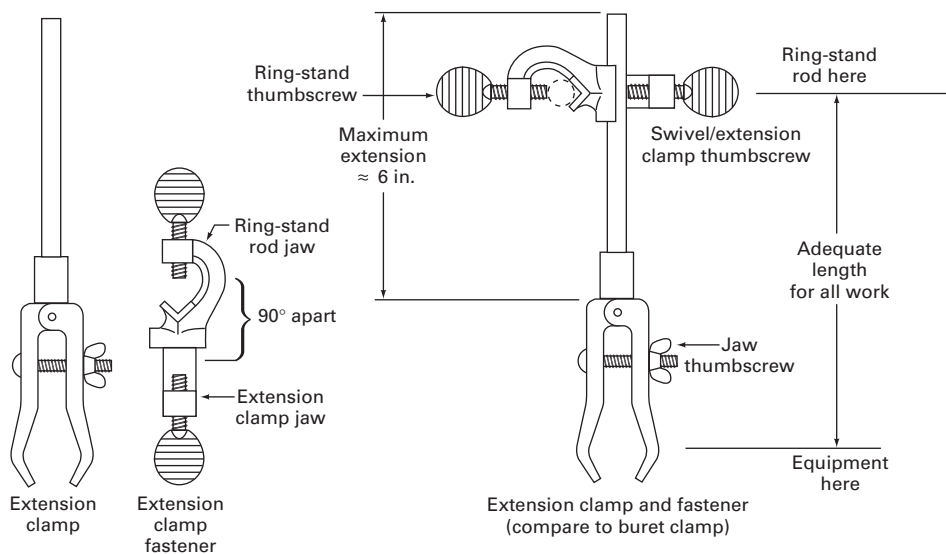

FIGURE 18.2 The extension clamp and clamp fastener.
2. **The simple extension clamp and clamp fastener** (Fig. 18.2). This two-piece beast is the second-best clamp going. It is much longer (approximately 12 in.), so you can easily get to complex setups. By loosening the **clamp holder thumbscrew**, the clamp can be pulled out, pushed back, or rotated to any angle. By loosening the **ring-stand thumbscrew**, the clamp, along with the clamp holder, can move up and down.